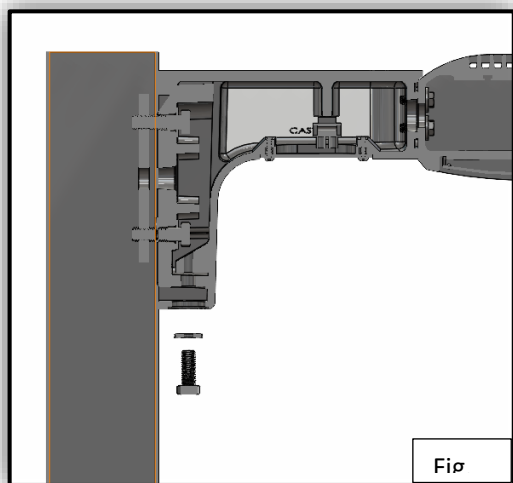

Fig.2
- Secure in place with 1/2" Nord-Lock Washer and 1/2"-13 X 1-1/4" Thread Locking Hex Head Bolt. Tighten to 45 ft-lb. **Fig. 2**